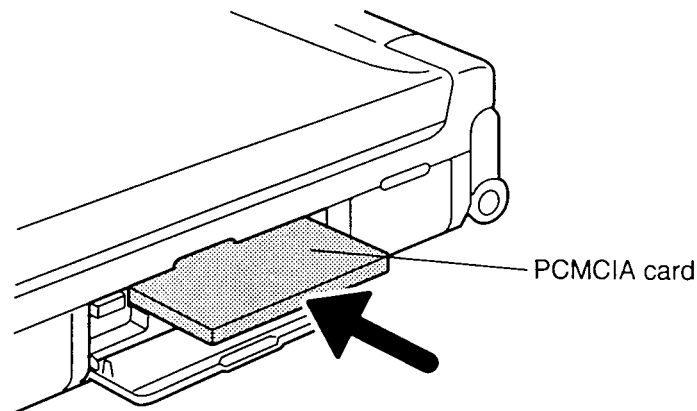

*Figure 4-6 Removing the PCMCIA Card*
To remove an optional PCMCIA card from the T3600CT, follow the steps below and refer to Figure 4-6.
3. Snap off the **cover** to the PCMCIA slot (Figure 4-6).
4. Press the **eject button** to pop the card out slightly (Figure 4-6).